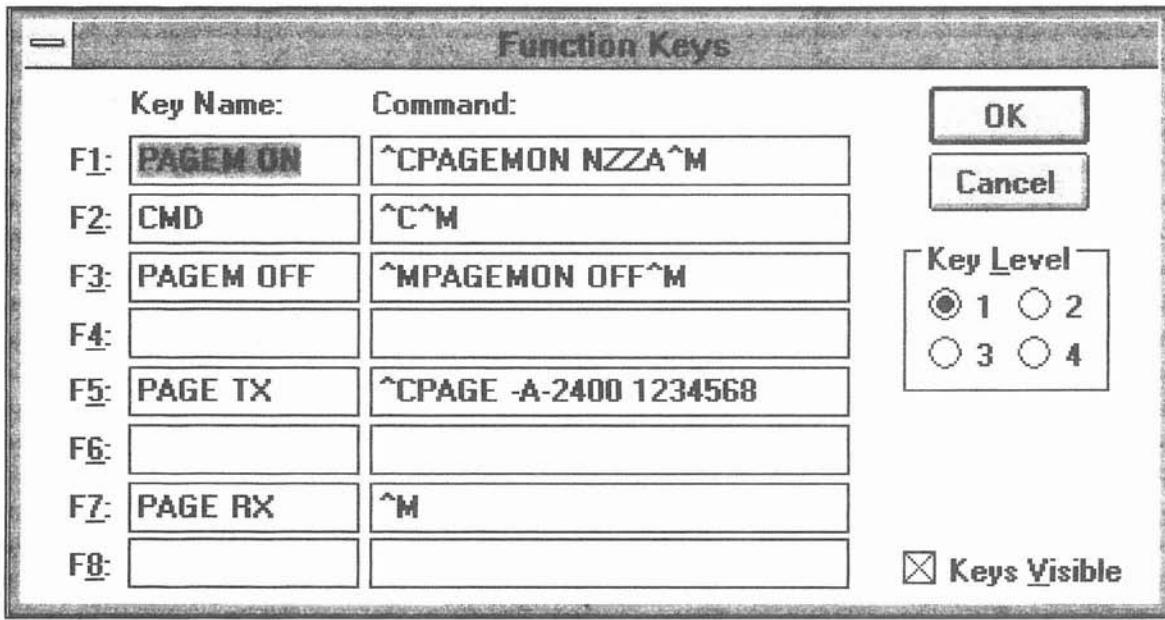

Figure 3-4: Setting Up Function Keys
Still, we can experiment with a two-way QSO by using the PAGEMON command to put the KPC-9612 in page monitor mode and by using the PAGE command to initiate an alphanumeric page at 2400 baud. For this experiment, my station setup consists of a Kantronics KPC-9612 (version 7.0 firmware), a Kenwood TM-251A data ready radio, a 486-66 PC, and the TERMINAL program in Windows 3.1. I've set up two function keys in TERMINAL, as shown in Figure 3-4, to place the TNC in monitoring mode and to initiate pages. PAGEMON is defined as function key 1 (F1) and the PAGE command less the message is defined as function key 5 (F5). When F1 is pressed, the TNC is placed in page monitor mode. When F5 is pressed, it overlays the monitor function, and automatically types out all of the PAGE command except the message. For example, when F5 is pressed, the cmd: prompt is called for (using the control-C directive) and the text string "PAGE -A-2400 1234568" is entered for me. To complete the transmission, I simply type whatever message I wish to send and follow that with a return (carriage return).